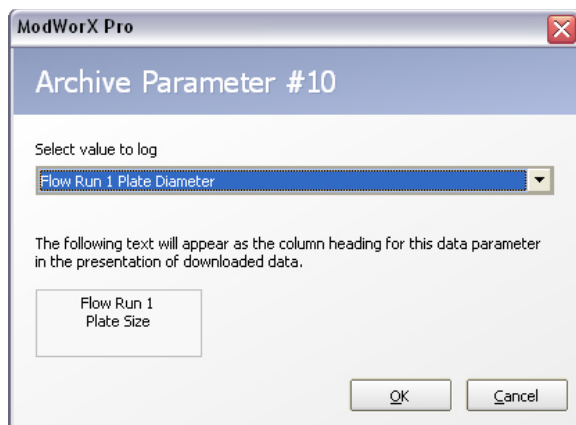

Figure 3.22
1. Click **Add Parameter**. An Archive Parameter dialog will appear (Figure 3.22, page 48).